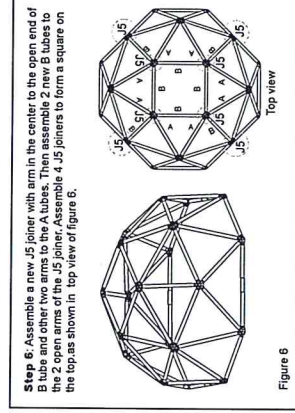

Figure 6
**Step 6:** Assemble a new J5 joiner with arm in the center to the open end of B tube and other two arms to the A tubes. Then assemble 2 new B tubes to the 2 open arms of the J5 joiner. Assemble 4 J5 joiners to form a square on the top as shown in top view of figure 6.